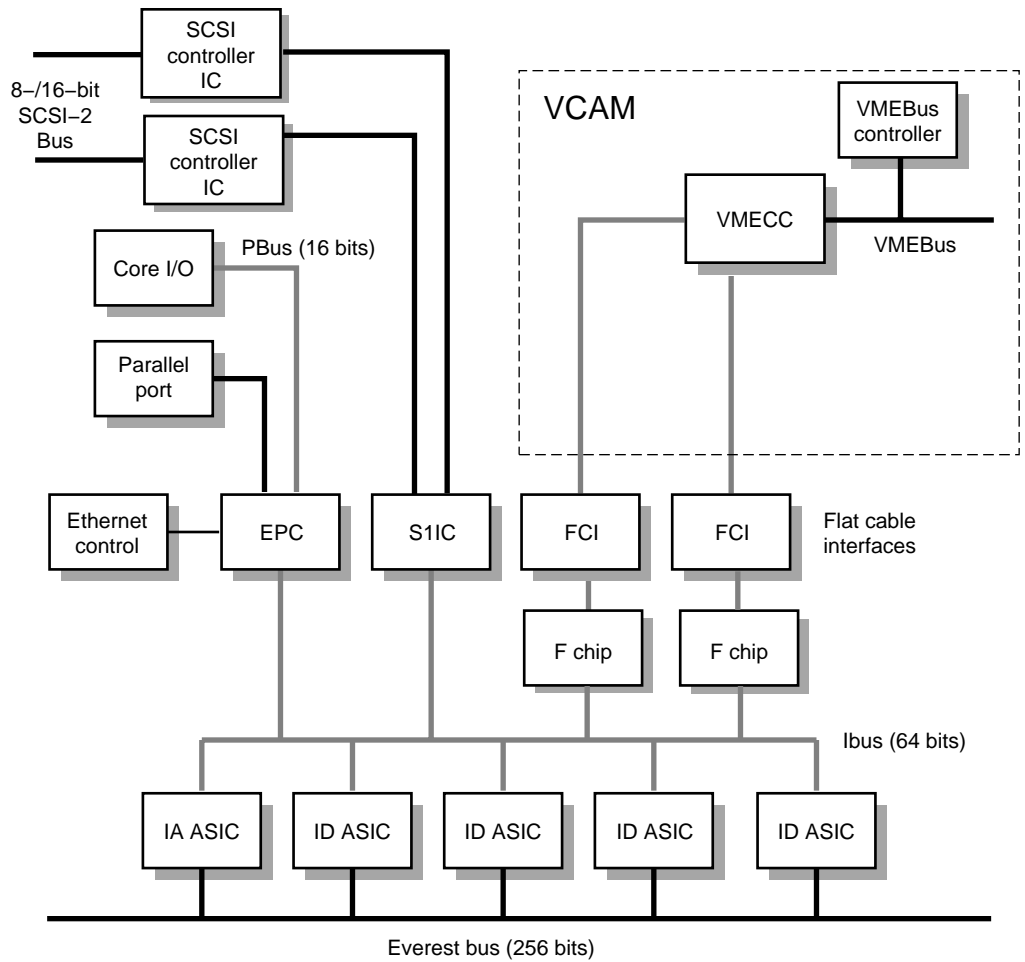

Figure E-2 IO4 Base Board Functional Block Diagram
See Figure E-2 for a functional block diagram of the IO4 board.
Communication with the VME and SCSI buses, the installed set or sets of graphics boards, and Ethernet takes place through the 64-bit Ibus (see Figure E-2). The Ibus interfaces to the main system bus, the 256-bit Ebus, through a set of interface control devices, an I address (IA) and, four I data